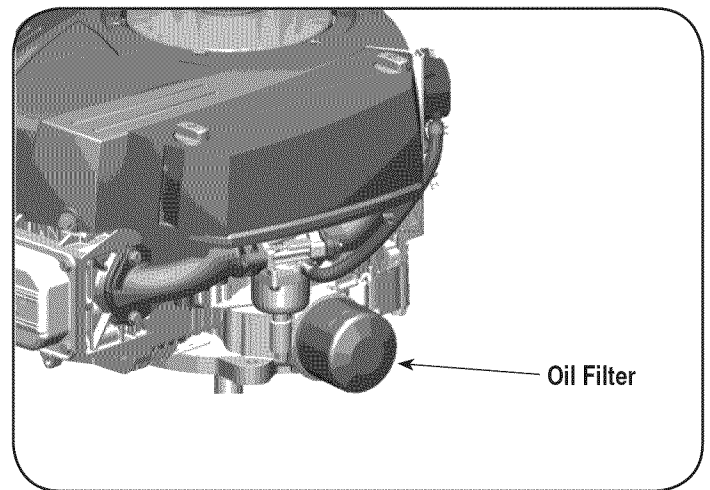

Figure 11
2. Remove the oil filter and dispose of properly. See Figure 11.